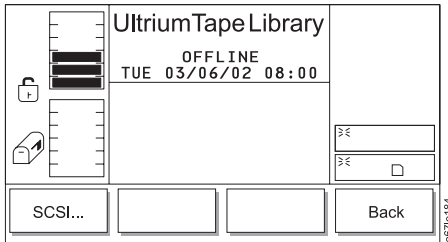

Figure 4-105. Drives Submenu
2. Press the button below the **Drives** softkey. The Drives Submenu displays (see Figure 4-105).
- To accept the current settings, press the button below the **Cancel** softkey. The Drives Submenu redisplay (see Figure 4-105 on page 4-64).
- To change the SCSI ID of the drive, press the button below the **Next** softkey until the selection cursor highlights the value in the New column of the SCSI ID field. Press the button below the **Up** or **Down** softkeys until the SCSI ID that you want displays. Verify that the new settings are correct on the display and that no other drives have the SCSI ID that you specified (ensure that the field *Drives with this ID: NONE* displays). Press the button below the **Next** softkey, then **OK** softkey to accept the new settings. The library resets the drives with their new IDs and displays the message **Requested command is now complete**. Press the button below the **OK** softkey to return to the Drives Submenu (see Figure 4-105 on page 4-64). Wait approximately one minute for the drive to accept the changes.